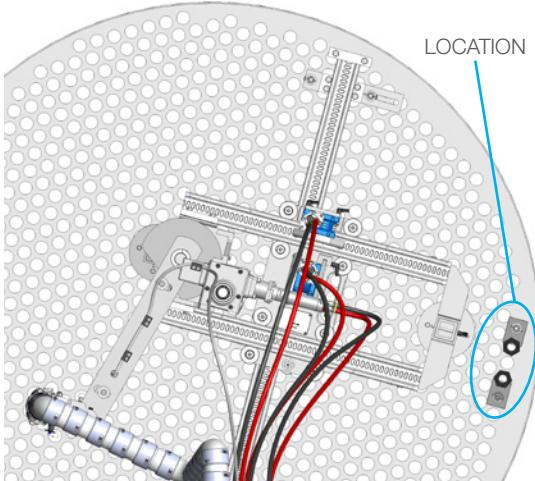

FIGURE 59
1. Install the Dump Line Adapters on the far opposite side of the Rotating Arm or cleaning quadrant. (**Figure 59**)